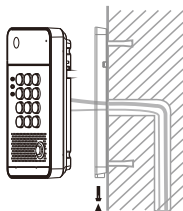

Figure 10
B. Push the device into the Wall-mounted hanging shell and tighten it with 1 screw as shown in Figure 10.